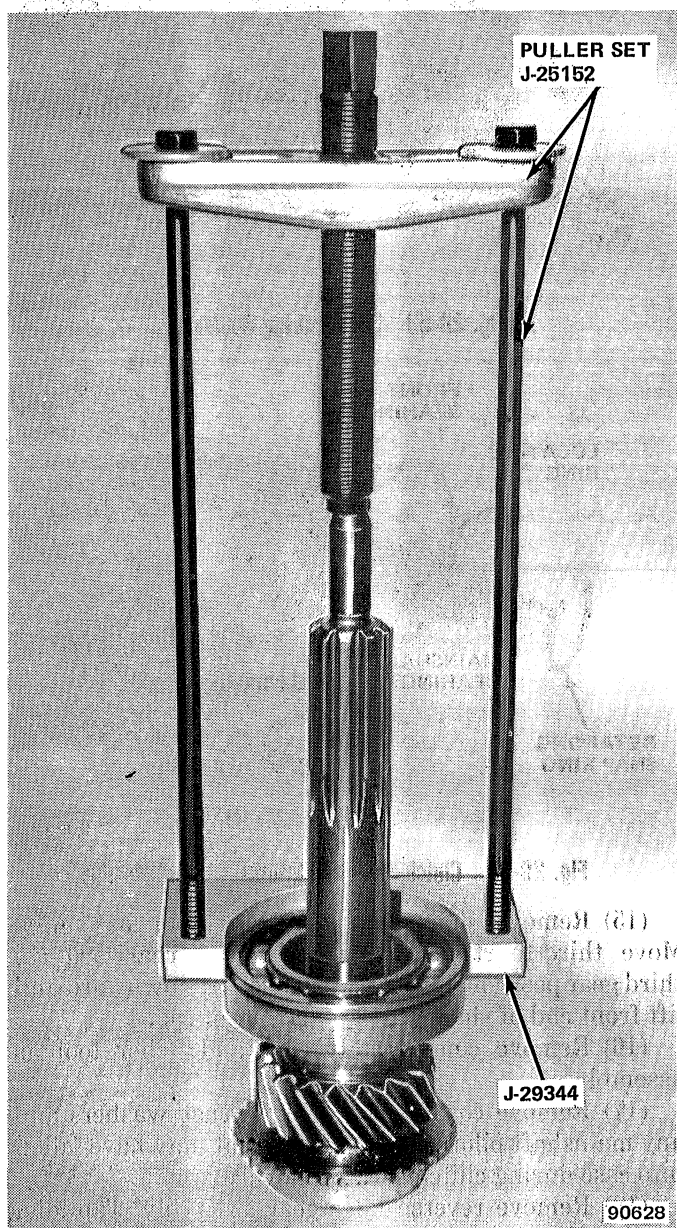

Fig. 2B-56 Removing Front Bearing from Clutch Shaft
(19) Remove needle bearings and bearing retainers from gear assembly (fig. 2B-58). Remove sliding gear from idler gear. Note position of sliding gear for assembly reference.